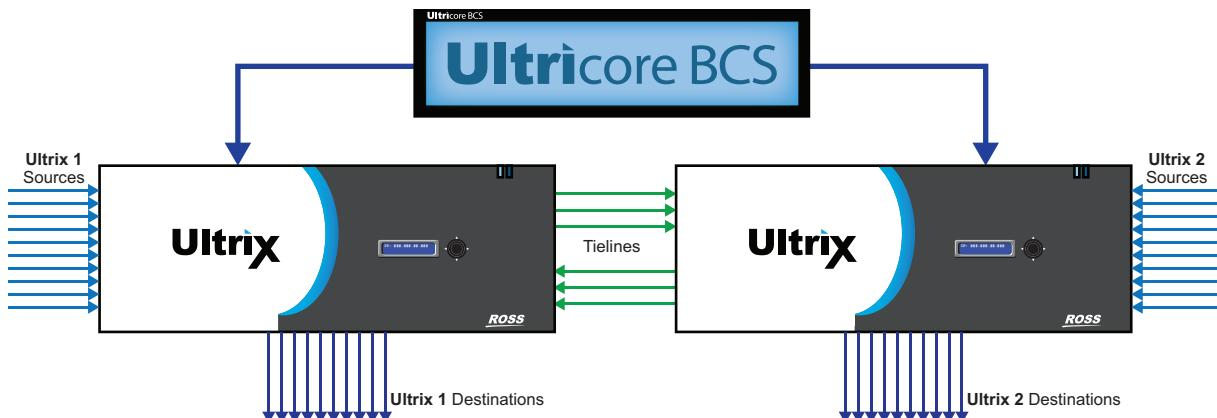
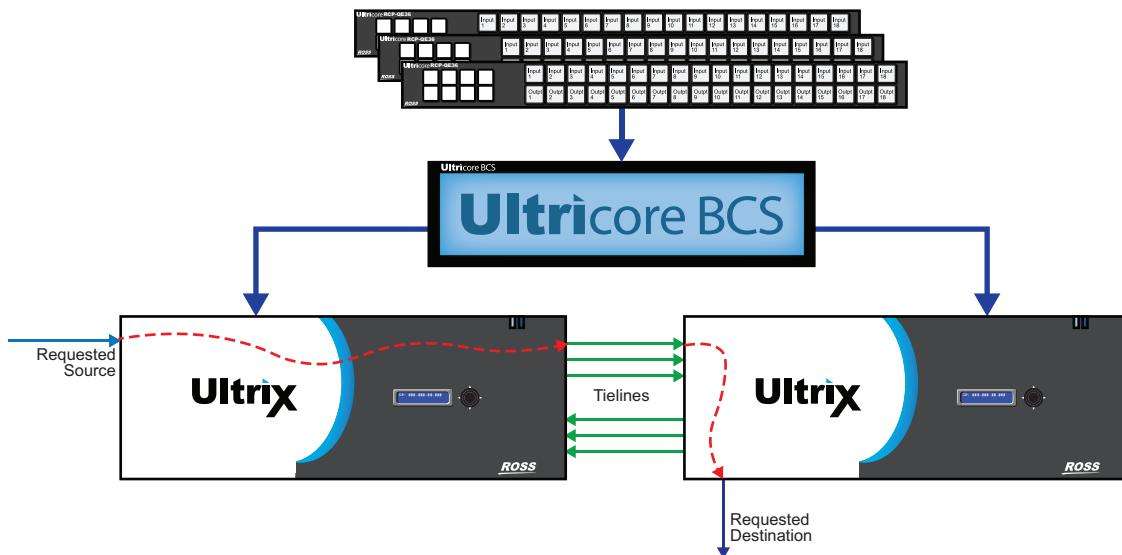

Figure 38 Example of a Distributed Routing System Work Flow with Tielines
Figure 39 Example of Tielines in a Work Flow
- ★ Tielines do not have to be bi-directional as represented in **Figure 38** and **Figure 39**.
Figure 38 represents a two-way tieline connection between routers where one (or more) outputs of Ultrix 1 are connected to the inputs of Ultrix 2, and one (or more) outputs of Ultrix 2 are connected to the inputs of Ultrix 1.
Figure 39 illustrates a work flow where Ultrix 2 needs a source that is only present on Ultrix 1. The Ultricore BCS routes the requested source to a destination that is configured as a tieline, and on Ultrix 2, it will route the tieline source to the user selected Destination.
In **Figure 39** the following occurred:
- b. Use the **From Device** menu to specify the router that will provide the start point for the Ultricore BCS tieline. In **Figure 39**, this would be Ultrix 1.